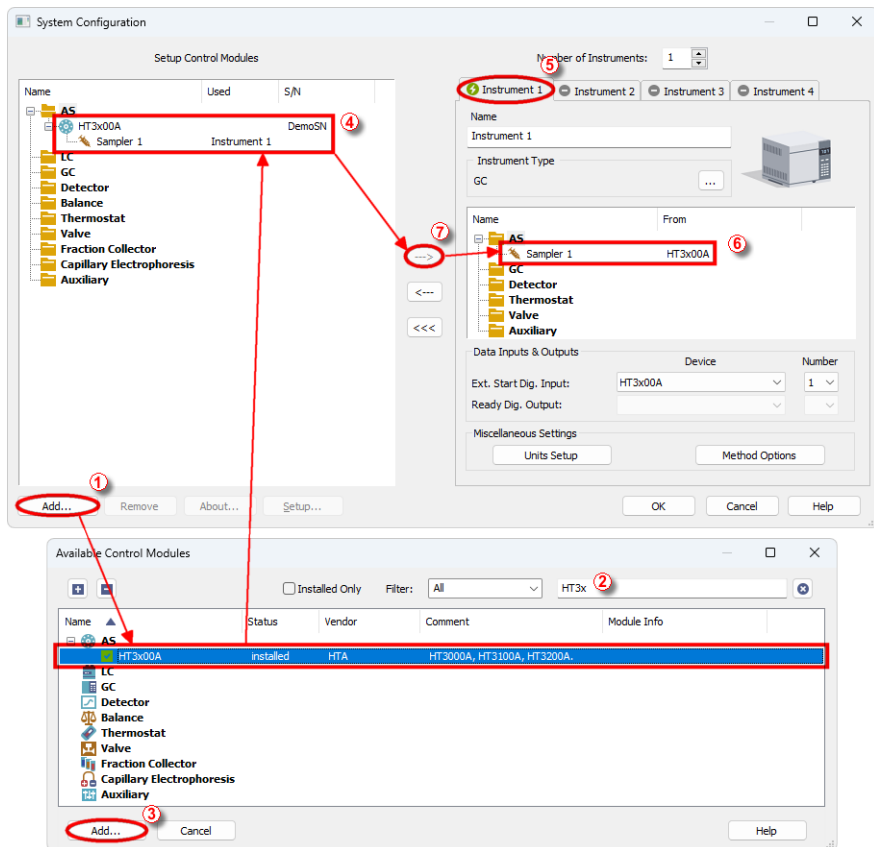

Fig. 2: System Configuration
- Press the **Add** button (1) (see Fig. 2 on pg. 5.) to invoke the **Available Control Modules** dialog.
- You can specify the searching filter (2) to simplify the finding of the driver.
- Select the **HT3x00A** sampler and press the **Add** (3) button.